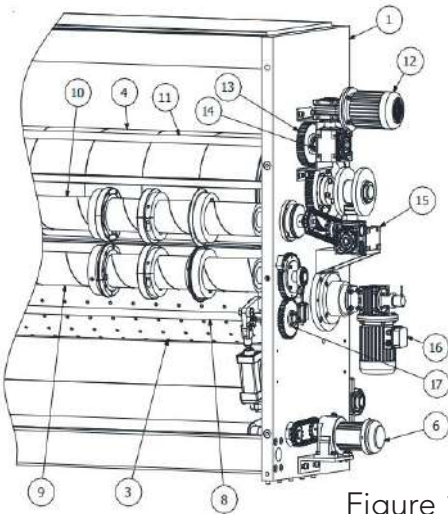

Figure 16
A) When the gap "a, B" in Figure 15 is inconsistent, adjust the "14" expansion sleeve in Figure 16, take the gap "a" as the benchmark, loosen the fastening screw of the expansion sleeve "14", adjust the gap "B" to be consistent with the size of a, and tighten the fastening screw of the expansion sleeve "14" after the adjustment.
A) If the clearance cannot be adjusted normally during use, please check whether the "12" clearance adjustment reduction motor or displacement sensor in Figure 16 is abnormal. If there is any abnormality, please repair or replace it in time.